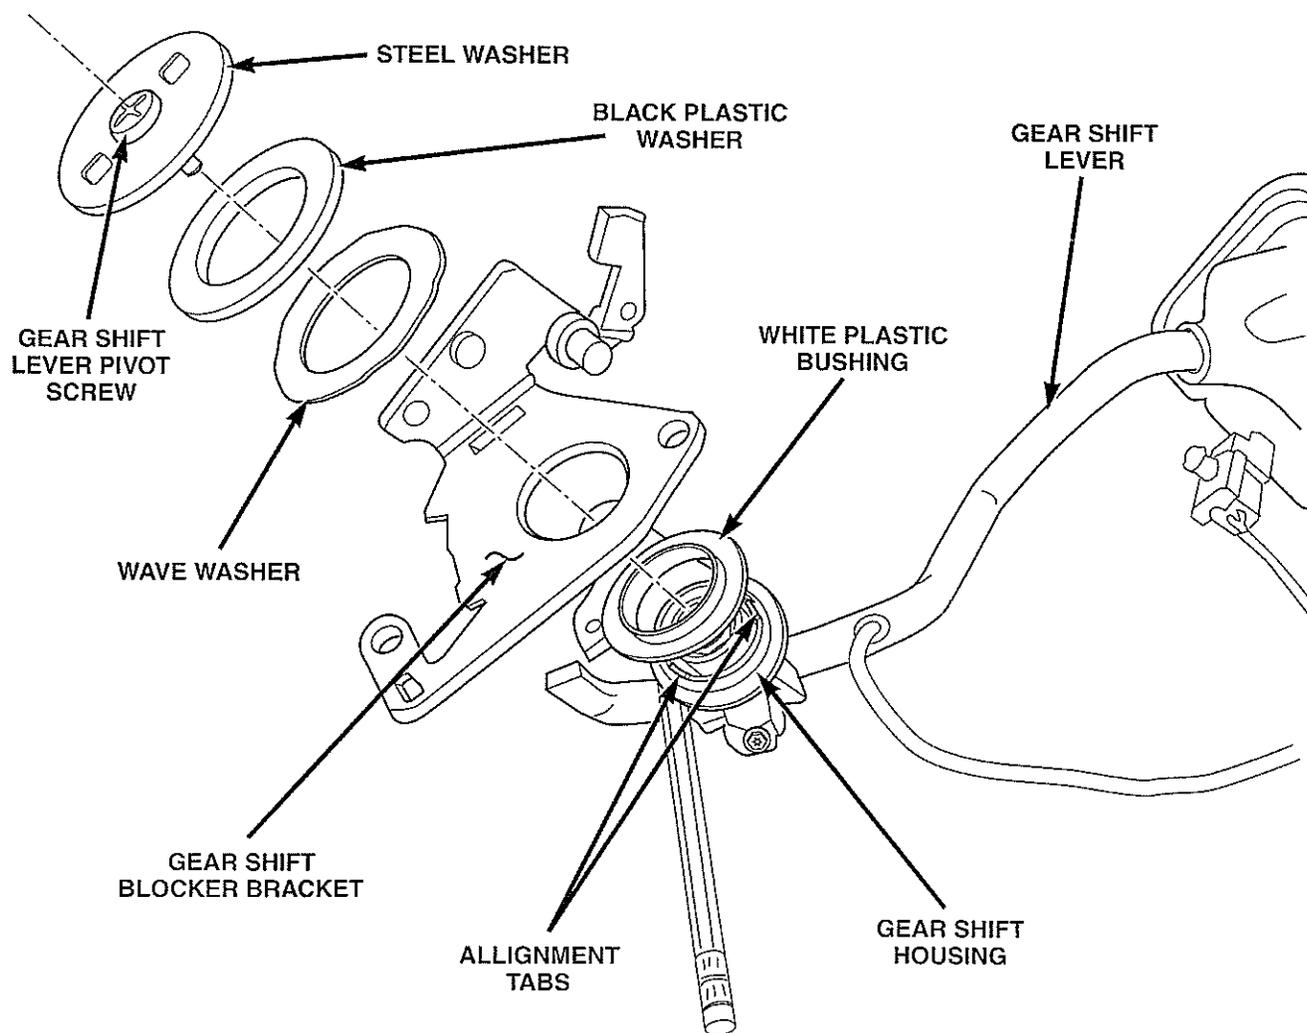

Figure 3
17. Clean and lightly lubricate the white plastic bushing located under the gear shift blocker bracket assembly with Lubriplate® white grease (Figure 3).
18. With the white plastic bushing in place on the gear shift lever housing, install the new gear shift blocker assembly (Figure 3).
19. Clean and lightly lubricate the black plastic washer, wave washer and steel washer with Lubriplate white grease (Figure 3).
20. Install the wave washer, black plastic washer and flat steel washer in the order shown in Figure 3 while aligning the square holes in the steel washer with the alignment tabs on the gear shift housing..
21. Install gear shift lever pivot screw and tighten to 105 in. lbs. (12 N·m) (Figure 3).